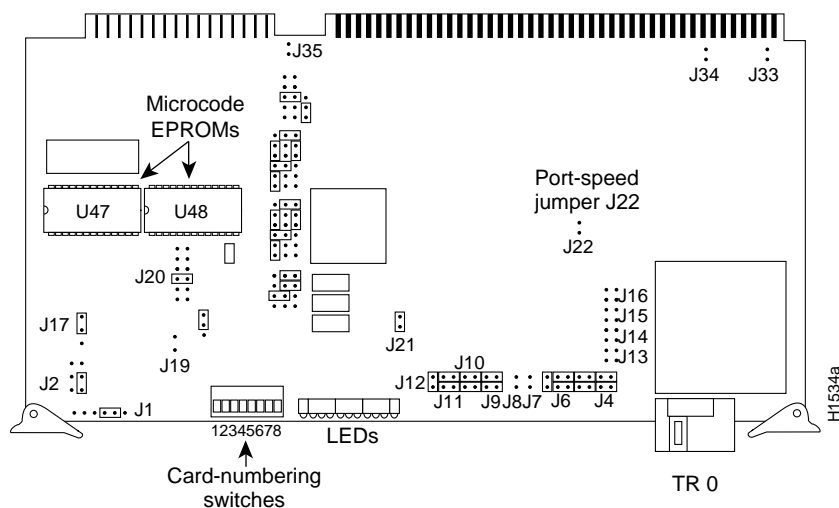

Figure 7 SBEMON EPROM Locations—Version 2.0 Shown
- Step 2** Position the card as shown in Figure 7. The two EPROMs, labeled *SBEMON*, are located next to one another with the notched end toward your left.